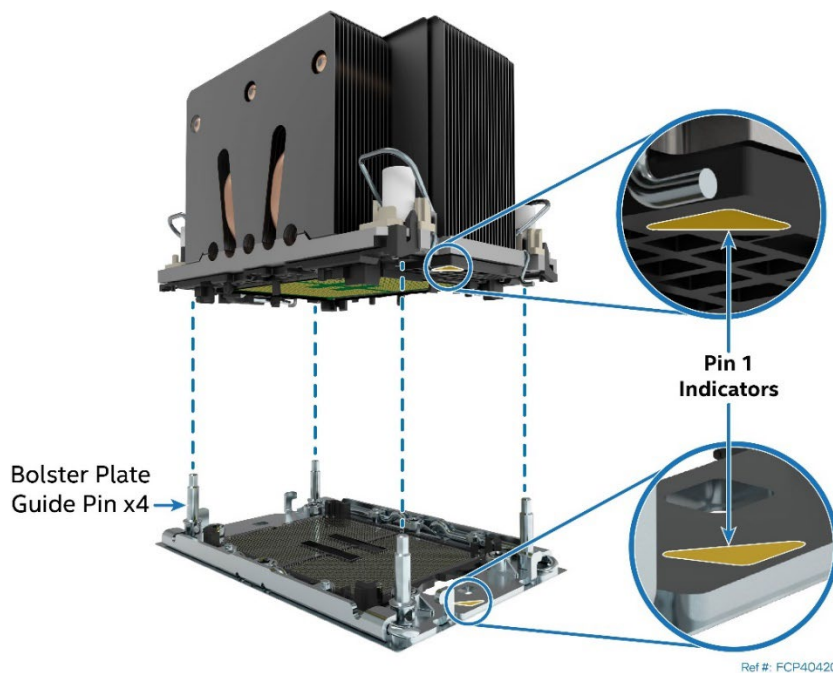

Figure 96. PHM Alignment with Socket Assembly
3. Align the Pin 1 indicators of the processor carrier clip and processor with the Pin 1 indicator on the bolster plate located around the processor socket (See Figure 96).